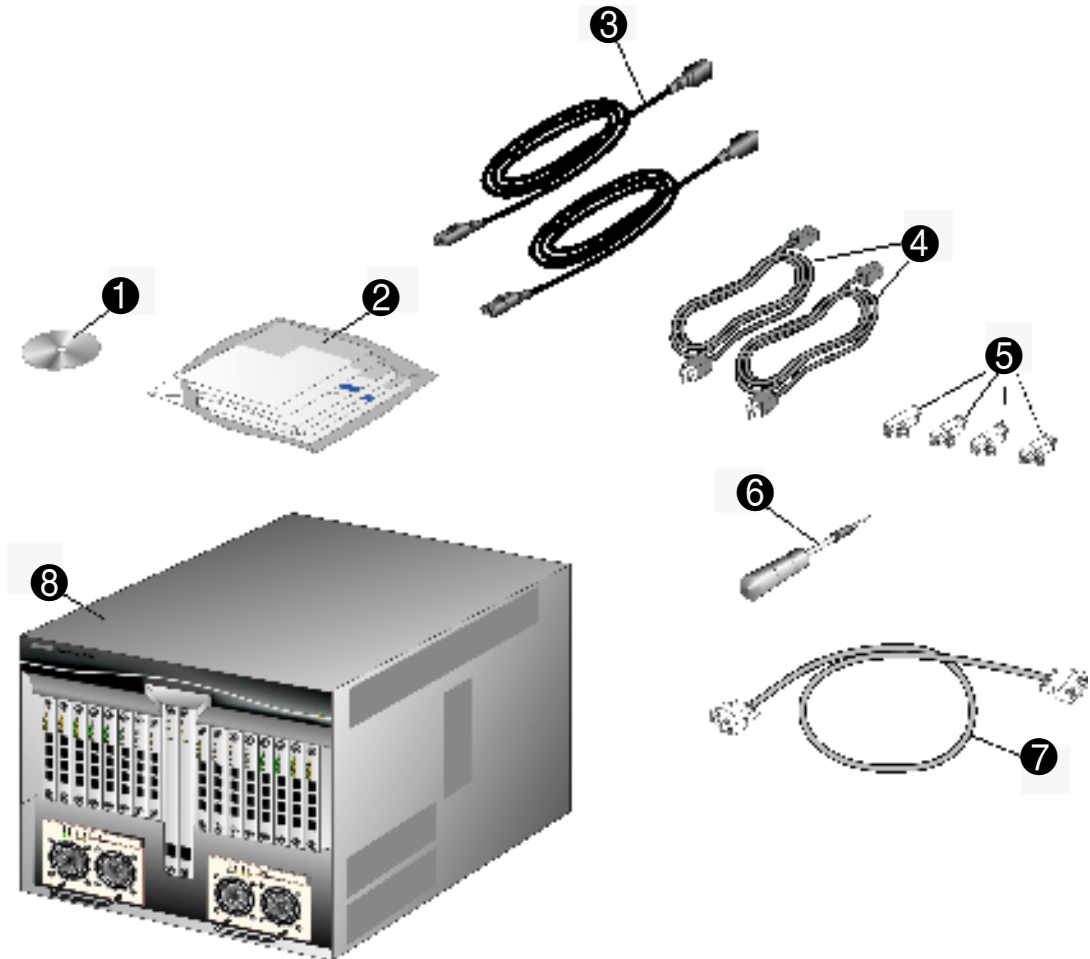
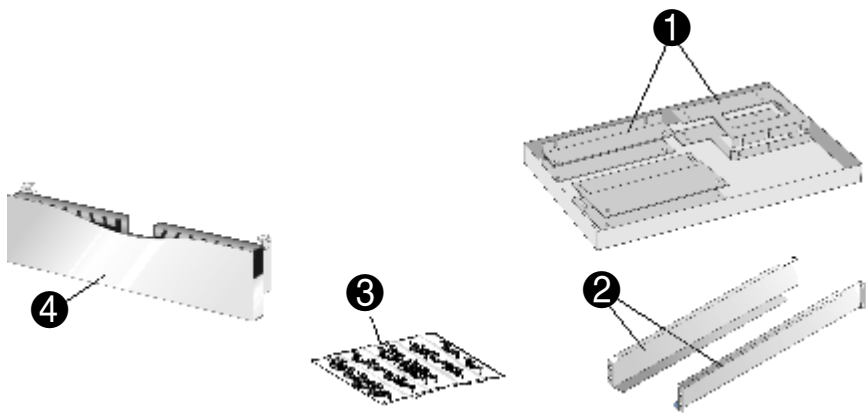
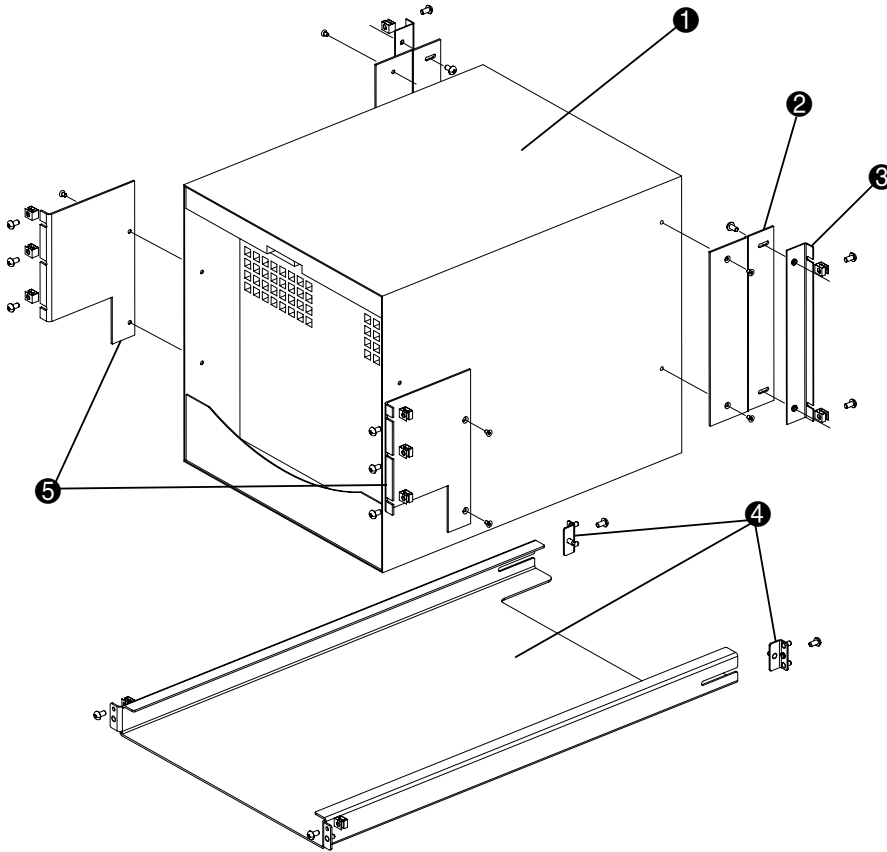

Figure 8 Carton contents for a Director 2/64
Figure 9 Carton contents for an HP 9000, HP 10000, and HP 11000 Series rack
Figure 10 Carton contents for a HP system/e or industry-standard 19-in rack installation
3. Verify carton contents (Figure 8 and Table 3) for the Director 2/64; (Figure 9 and Table 4) for the HP 9000, HP 10000, and HP 11000 Series Rack kit; and (Figure 10 and Table 5) for the HP system/e and industry-standard 19-in rack.